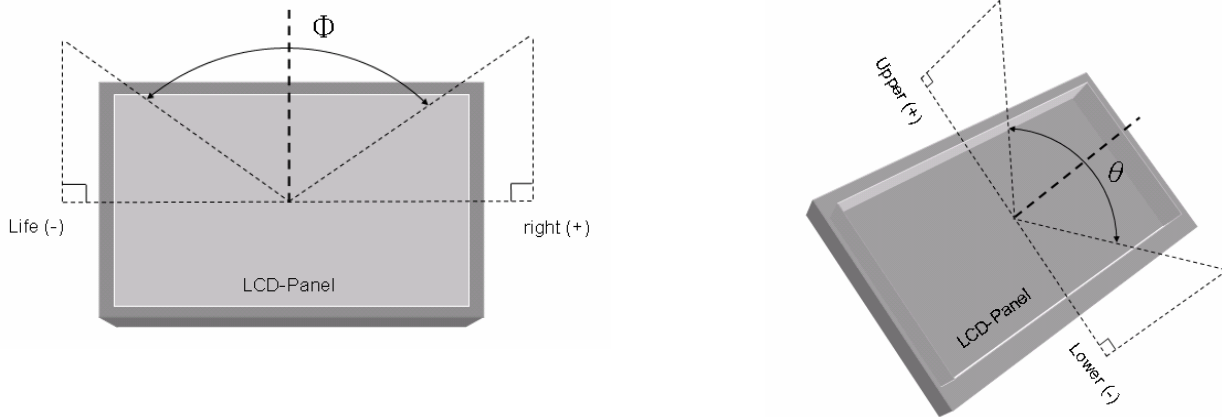

Fig.2 Definition of Viewing Angle
*3) Definition of Viewing Angle(θ, ψ),refer to Fig.2 as below